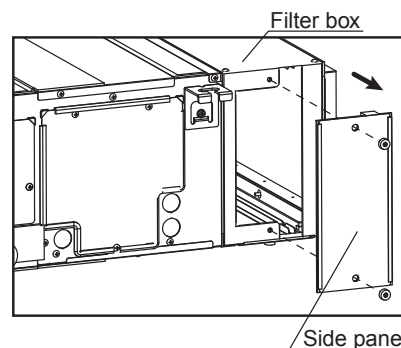

Fig.3-1-1
- (1) Remove the side panel from the filter box. (Fig. 3-1-1)